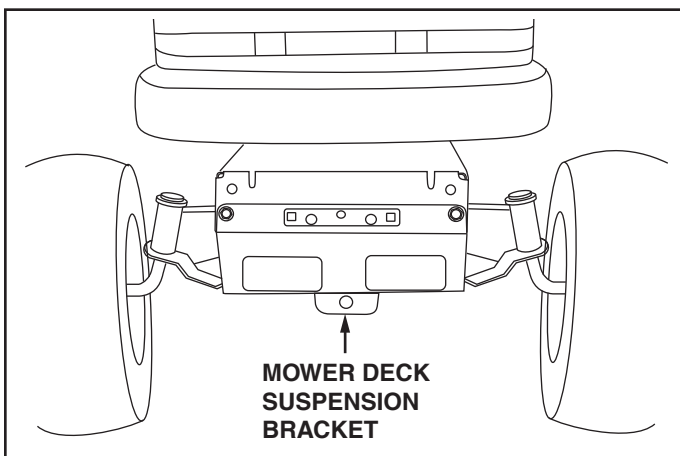

FIGURE 1
2. Look under the front of your tractor. If there is a single mower deck suspension bracket located underneath the middle of the front axle as shown in figure 1, continue on to step 3. If your tractor does not have a mower deck suspension bracket underneath the middle of the front axle, skip to step 7 on page 5 for LT tractors with dual suspension brackets or step 16 on page 6 for GT tractors with dual suspension brackets.